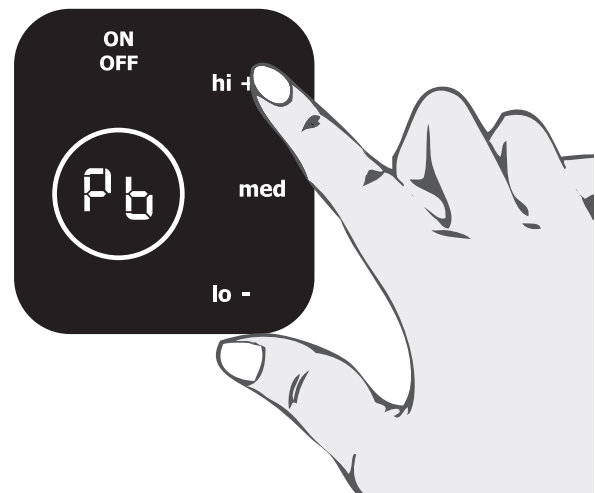

Figure 1
- Press the **“hi +”** key pad and the **PB** will be shown in the display (figure 1).